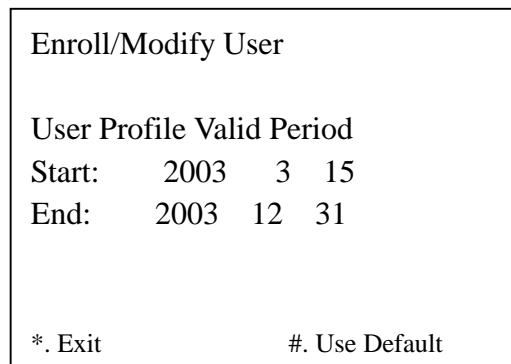

Figure 2-19 Edit user profile valid period
If selecting item 1 to escape the valid period setting, this user will have no limitation of valid period. If selecting item 2 to edit valid period, the screen is shown as in Figure 2-19.